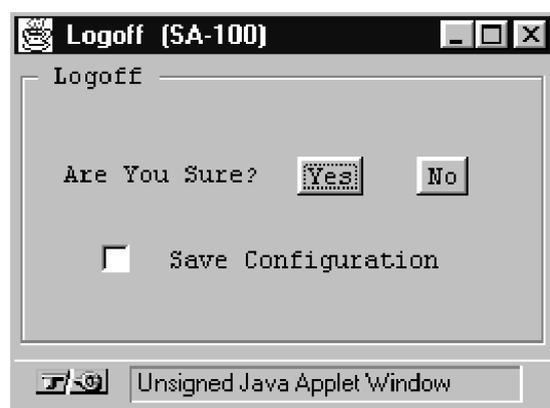

Figure 2-7. Logoff Window
2. When the Logoff window appears (see Figure 2-7), click in the Save Configuration box to preserve any configuration work you may have performed during this WebXtend session.